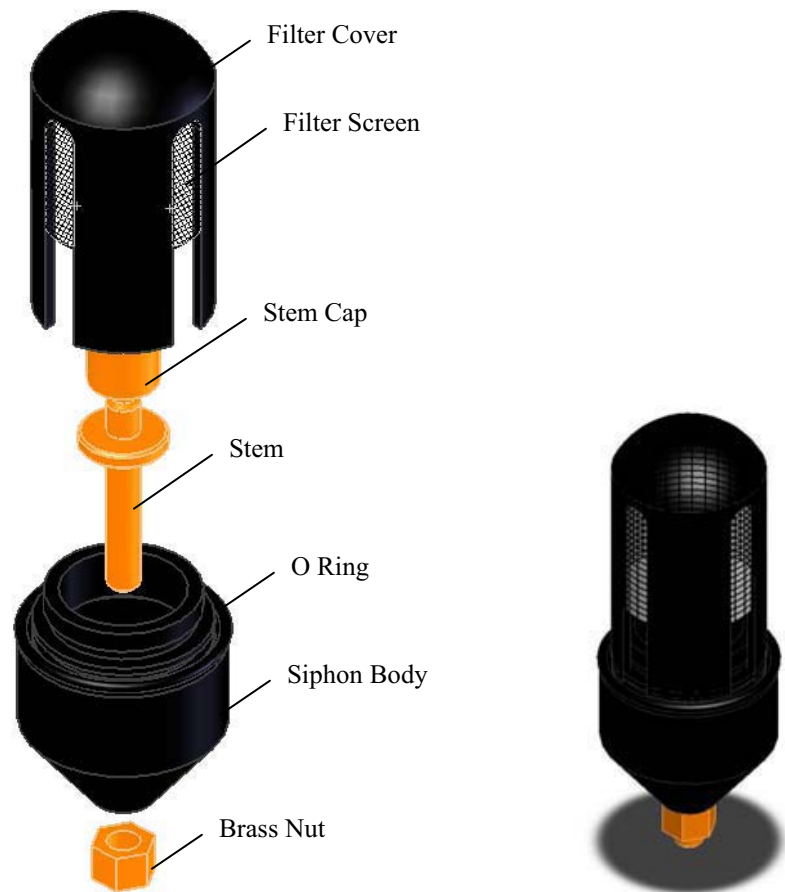

FIGURE 7-3. Filter/Siphon Assembly
- Catch filter (see Figure 7-3)
- Siphon (see Figure 7-3)
3. Disassemble the filter/siphon assembly by doing the following (see Figure 7-3):